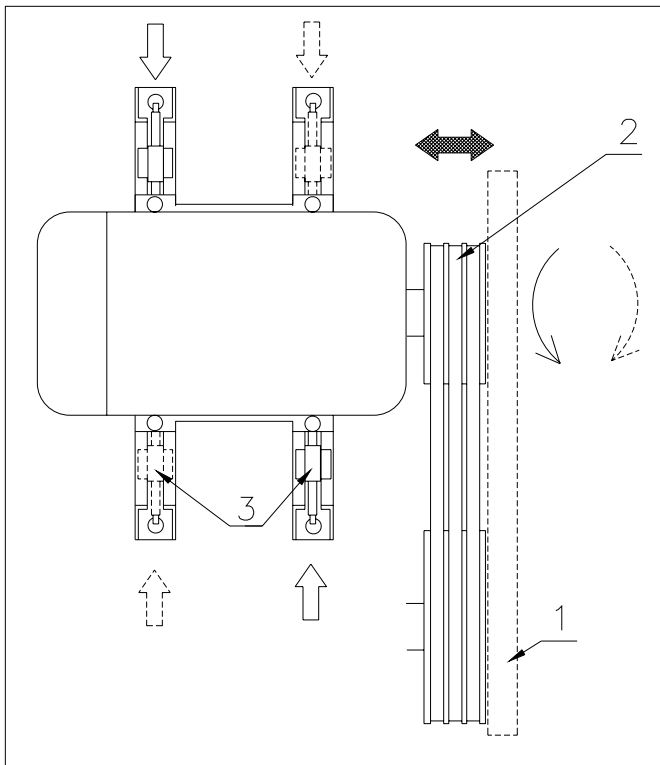

Fig. 7.7
Check afterwards if both pulleys are still aligned (see Fig.7.7).
When the motor shaft is not parallel to the pump shaft, the motor can be rotated as shown in fig.7.7. Loosen the motor fixing bolts and use the tensioners (3) to rotate the motor. If necessary, one of the tensioners can be placed into the rail above the motor.